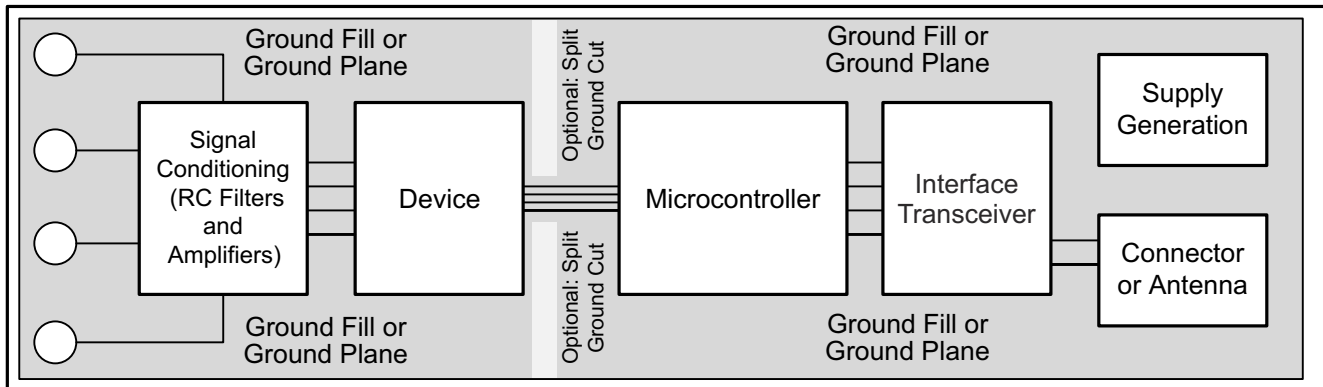

Figure 9-15. System Component Placement
Use best design practices when laying out a printed circuit board (PCB) for both analog and digital components. This practice generally means that the layout separates analog components [such as ADCs, amplifiers, references, digital-to-analog converters (DACs), and analog MUXs] from digital components [such as microcontrollers, complex programmable logic devices (CPLDs), field-programmable gate arrays (FPGAs), radio frequency (RF) transceivers, universal serial bus (USB) transceivers, and switching regulators]. An example of good component placement is shown in Figure 9-15. Although Figure 9-15 provides a good example of component placement, the best placement for each application is unique to the geometries, components, and PCB fabrication capabilities employed. That is, there is no single layout that is appropriate for every design and careful consideration must always be used when designing with any analog component.